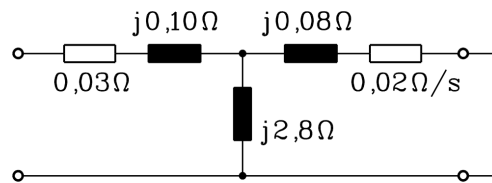

Fig. 2.7-1: T-equivalent circuit of selected squirrel cage motor
A 4 pole squirrel cage induction machine 630 kW, 500 V, delta-connected, 50 Hz, has been selected for inverter operation up to 75 Hz stator frequency to drive a sugar centrifuge. For constant power operation the voltage is kept constant between 50 Hz and 75 Hz. Motor calculation data produced the T-equivalent circuit per phase at 50 Hz (Fig. 2.7-1).
- 4) In the manufacturer's test bay the motor is operated directly from the 50 Hz grid at 500 V. At  $s = 1$  the skin effect cause an increase of rotor resistance up to 300% of data of Fig. 2.7-1. Determine locked-rotor torque and compare it with the value with neglected skin effect.